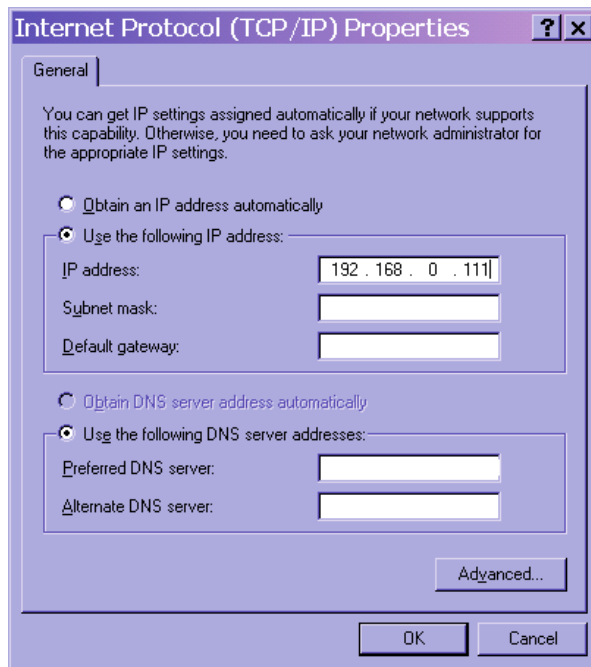

Figure 11. Temporary IP Address
4. Click the radio button beside “Specify an IP Address” or “Use the following IP address” if it is not already selected. Enter the address **192.168.0.111** (see Figure 11).